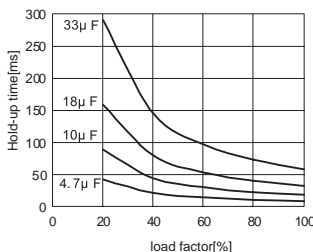
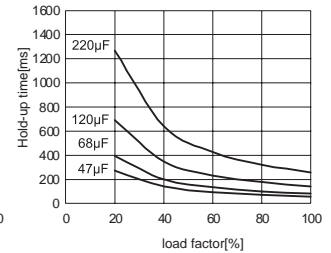

Fig.3.1 TUHS3 hold-up time(AC100V)
Fig.3.8 TUHS25 hold-up time(AC200V)
■ In order to smooth voltage, connect Cbc between +BC and -BC. Recommended capacitance of Cbc is shown in Table 3.2. Hold-up time and load factor is shown in figure 3.1-figure 3.8.